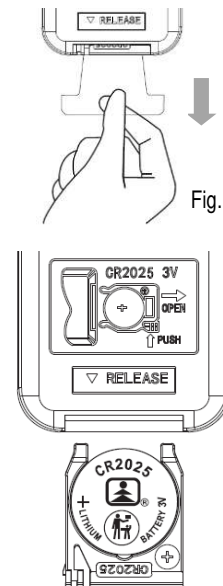

Fig.1
1. Pull out the plastic film from the battery cover to energize the remote. {Fig. 1}